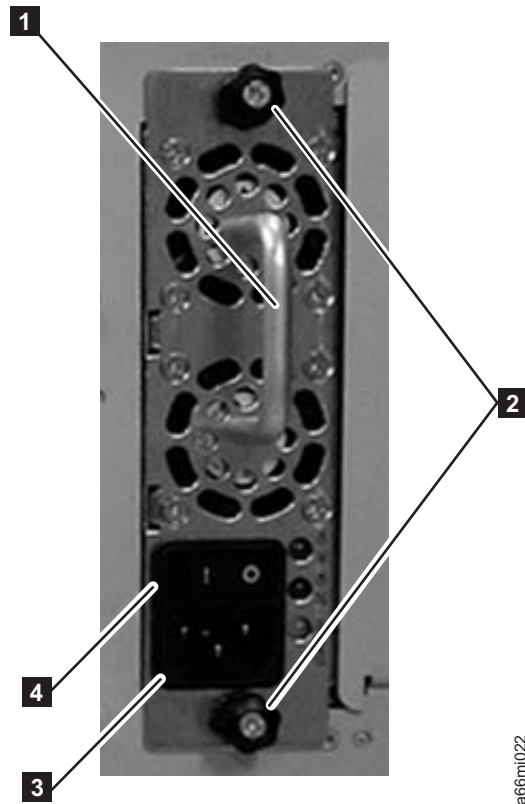

Figure 4-34. Control Module Power Supply
1. Replace the power supply component by sliding it into the power supply slot. First, grasp the handle (**1** in Figure 4-34) while supporting the power supply component from underneath. Then, line up the power supply component with the guides in the power supply slot, and carefully push it into the library.
2. Tighten the two thumb screws (**2** in Figure 4-34) on the power supply component by turning them clockwise.
1. Turn the switch on each power supply (**4** in Figure 4-34 on page 4-29) to the ON (I) position.